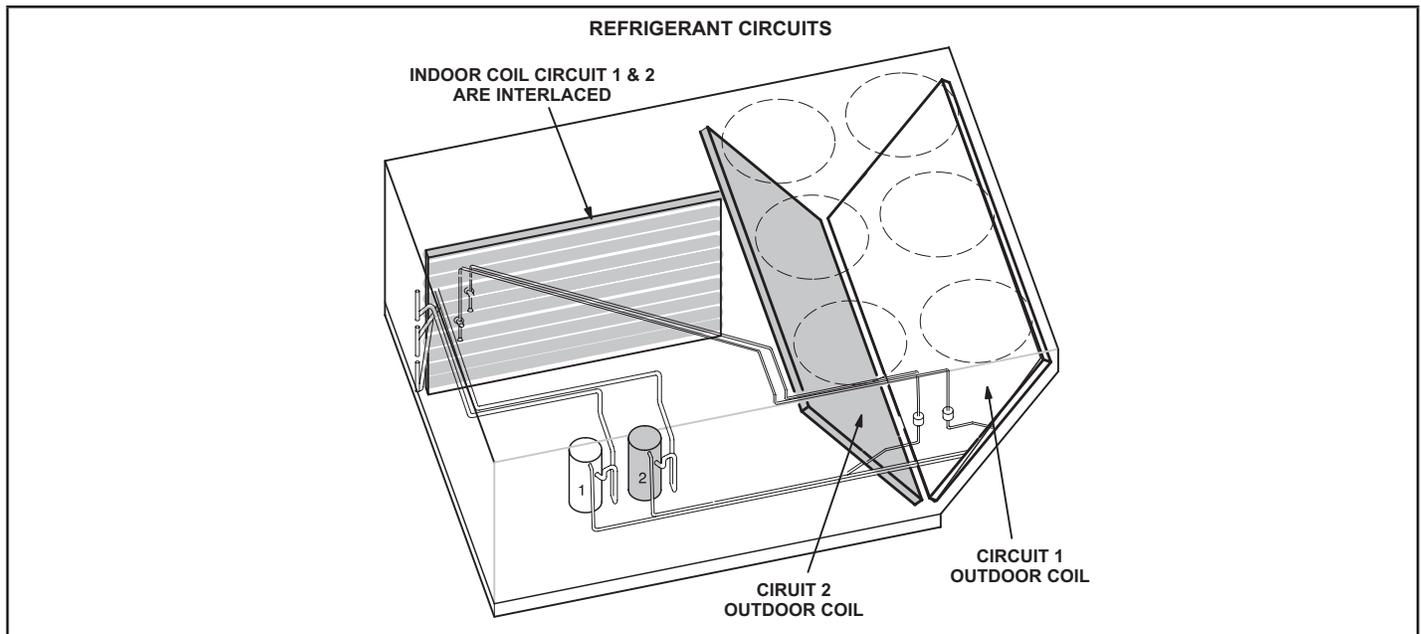

FIGURE 21
- 3 - Units contain two refrigerant circuits or systems. See FIGURE 21.